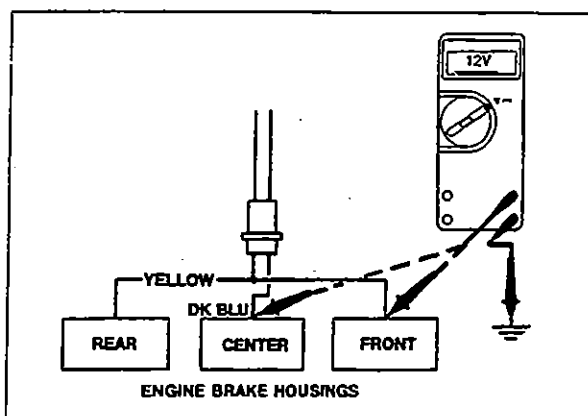

Fig. 1.1.26
**Correction:** Inspect DK BLUE and YELLOW wires leading to solenoid valve connectors. Check for loose contacts, pinched wires or scraped insulation. Start the engine, turn the engine brake switch ON and select HI. Advance the throttle to rated speed and then release the throttle. Voltage at both YELLOW and DK BLUE wires should measure +12 VDC (Fig. 1.1.26).